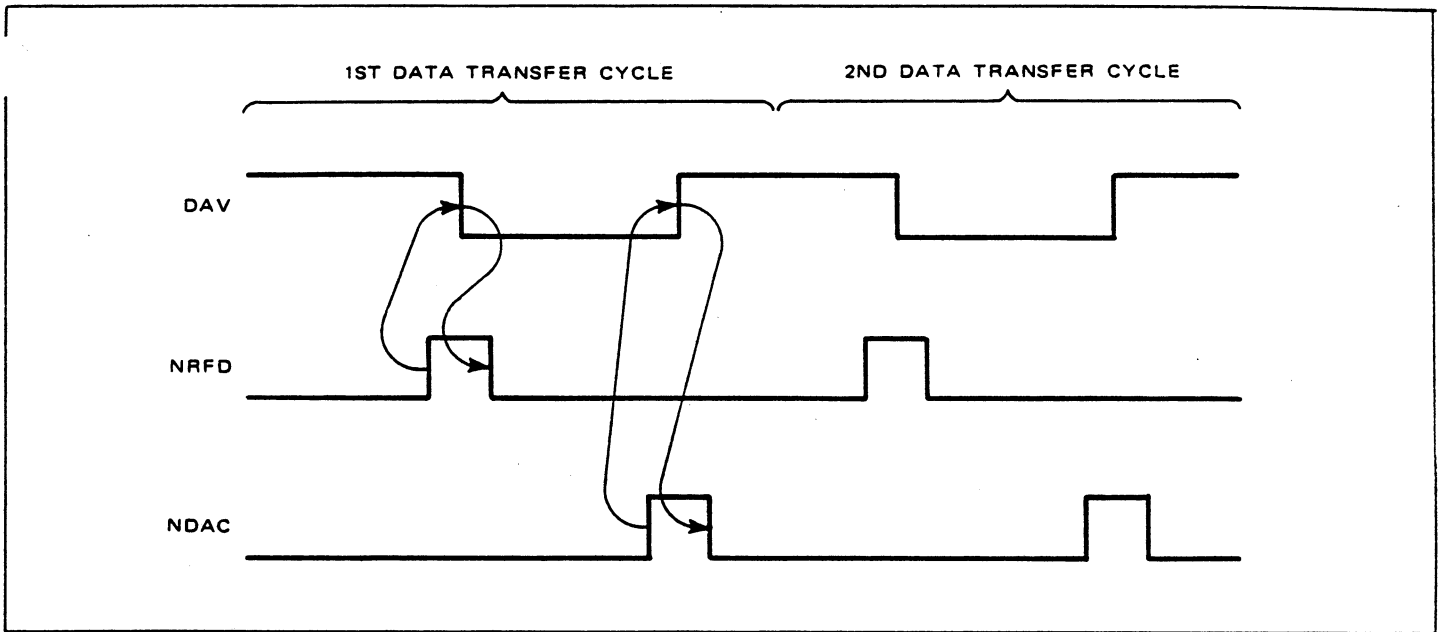
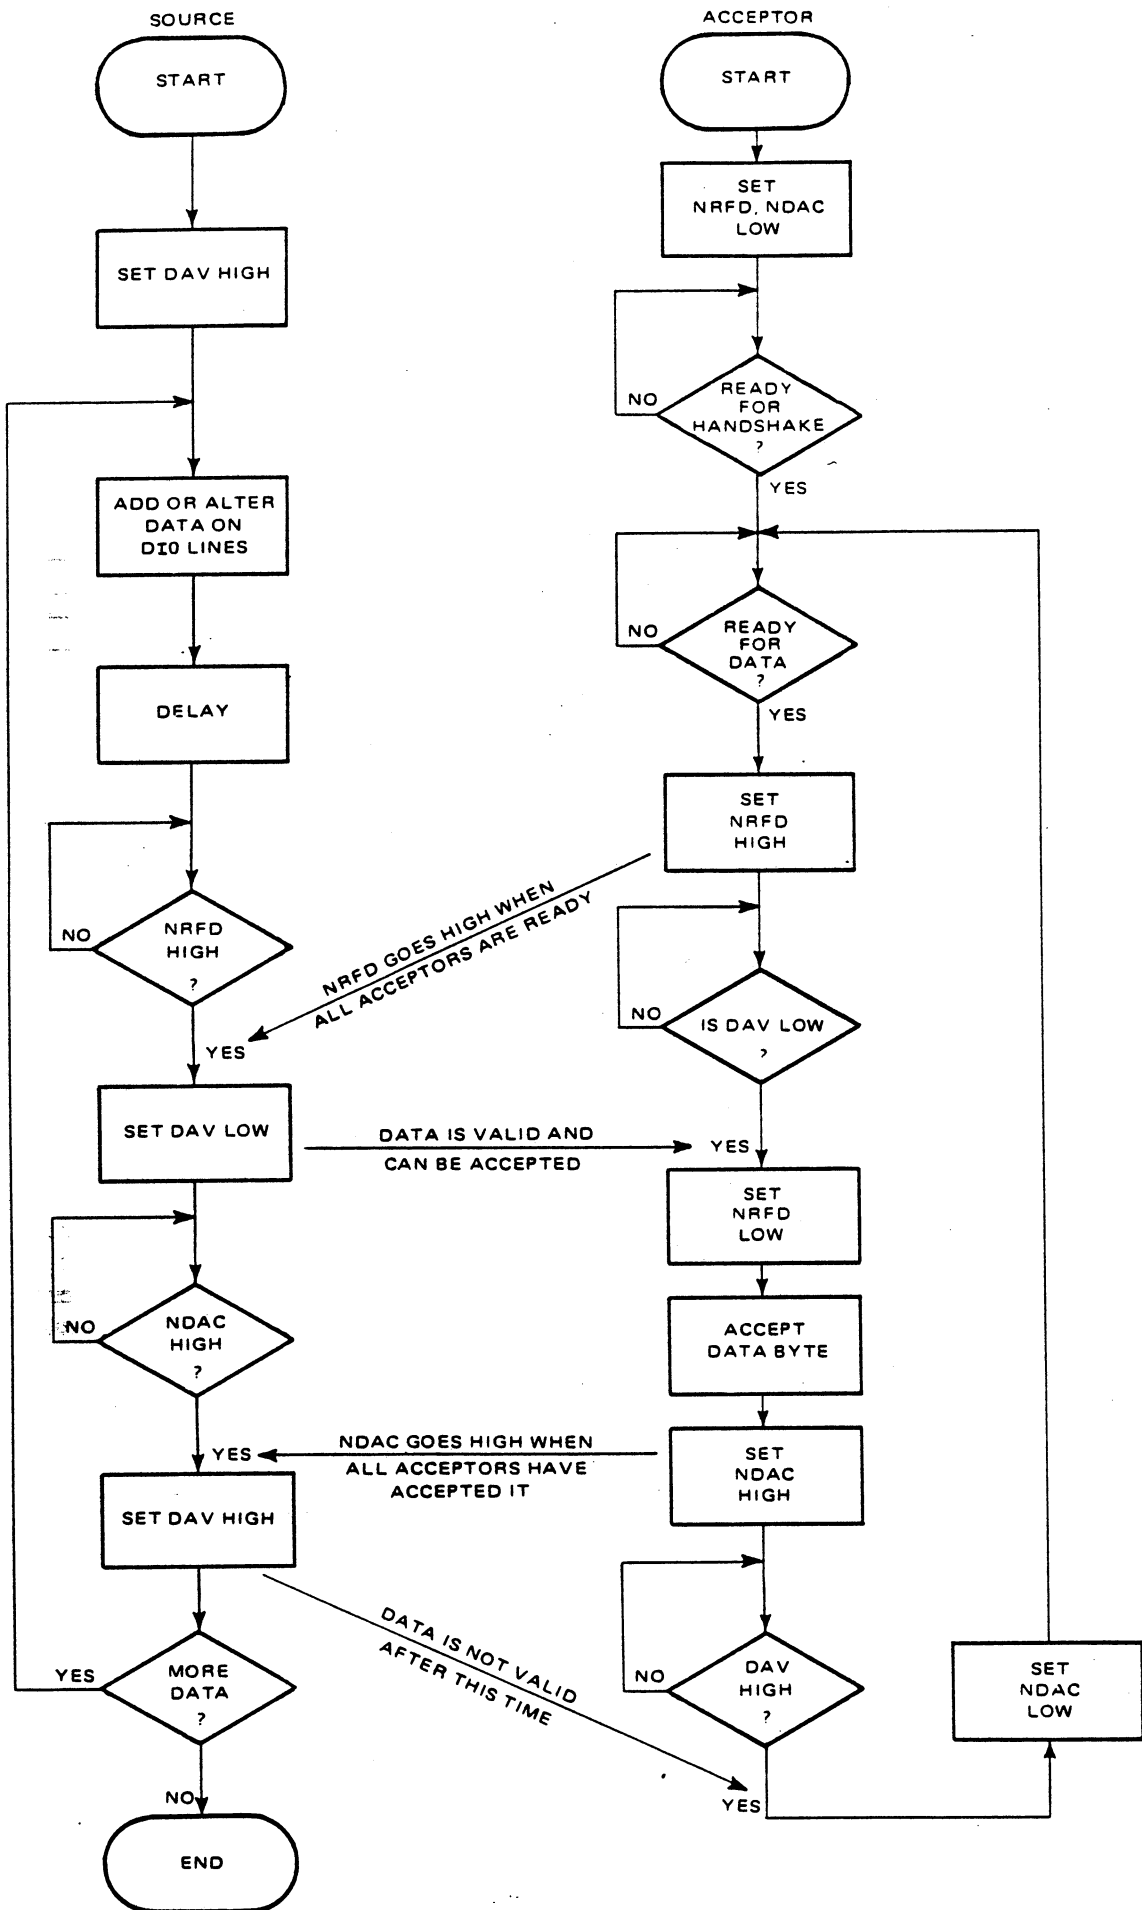

Figure 3.2 - Handshake Sequence
Figure 3.3 - Handshake Flow Chart
3.2.4.2 Shown in Figure 3.2 is the sequential relationship between the DAV, NRFD, and NDAC lines, used to transfer data bytes. Figure 3.3 illustrates the handshake flow chart. The handshake sequence is illustrated and described in further detail in a subsequent subsection entitled *Bus Operation Sequence*.